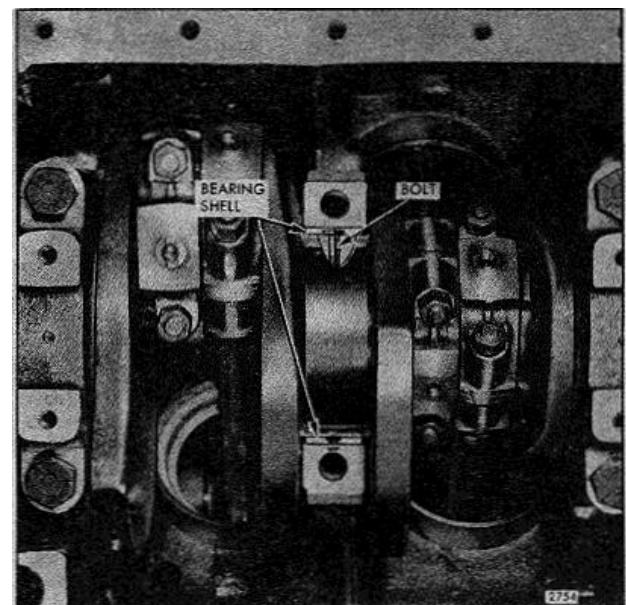

FIG. 3 - Removing Upper Main Bearing Shell (Except Rear Main)
- a. To remove all except the rear main bearing shell, insert a 5/16", x 1" bolt with a 1/2" diameter and 1/16" thick head (made from a standard bolt) into the crankshaft journal oil hole. Then revolve the shaft to the right (clockwise) and roll the bearing shell out of position as shown in Fig. 3. The head of the bolt must not extend beyond the outside diameter of the bearing shell.